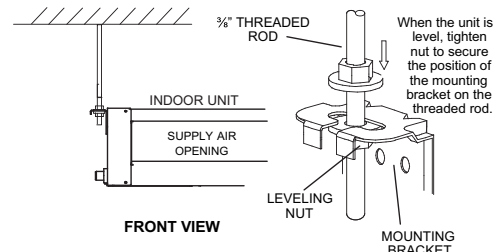

Fig. 9 — Threaded Rod
3. Secure the unit in position with locknuts and washers on both sides of the mounting bracket. Ensure that the threaded rod does not protrude more than two inches below the mounting brackets as shown in Fig. 9.